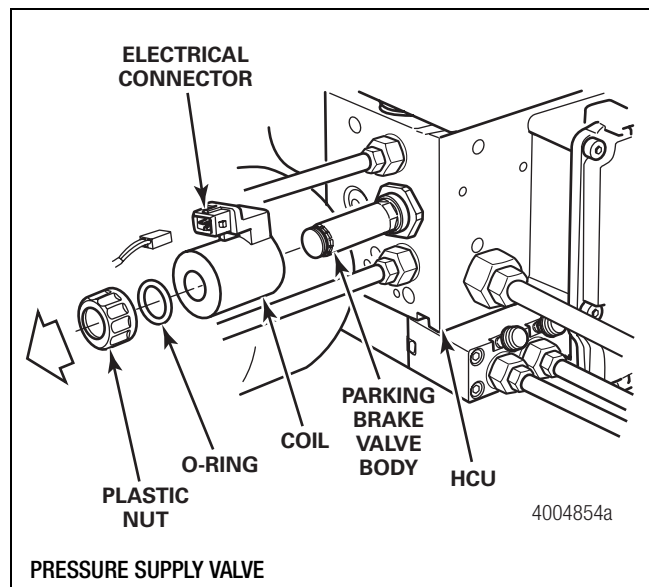

Figure 8
7. Unscrew the black plastic nut from the pressure supply valve. Remove the coil and O-ring. Figure 8.